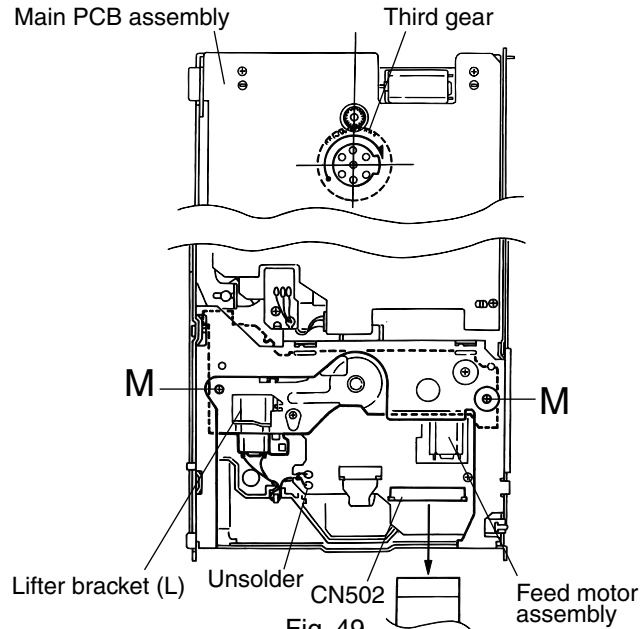

Fig. 49
■ Pickup replacement procedure (See Fig.49 to 55)
5. Remove the two screws **M** from the round holes on the chassis (R) assembly to remove the lifter bracket (L).
10. Remove the three fixing screws **N** from the round holes on the chassis (R) assembly to remove the traverse mechanism board assembly.